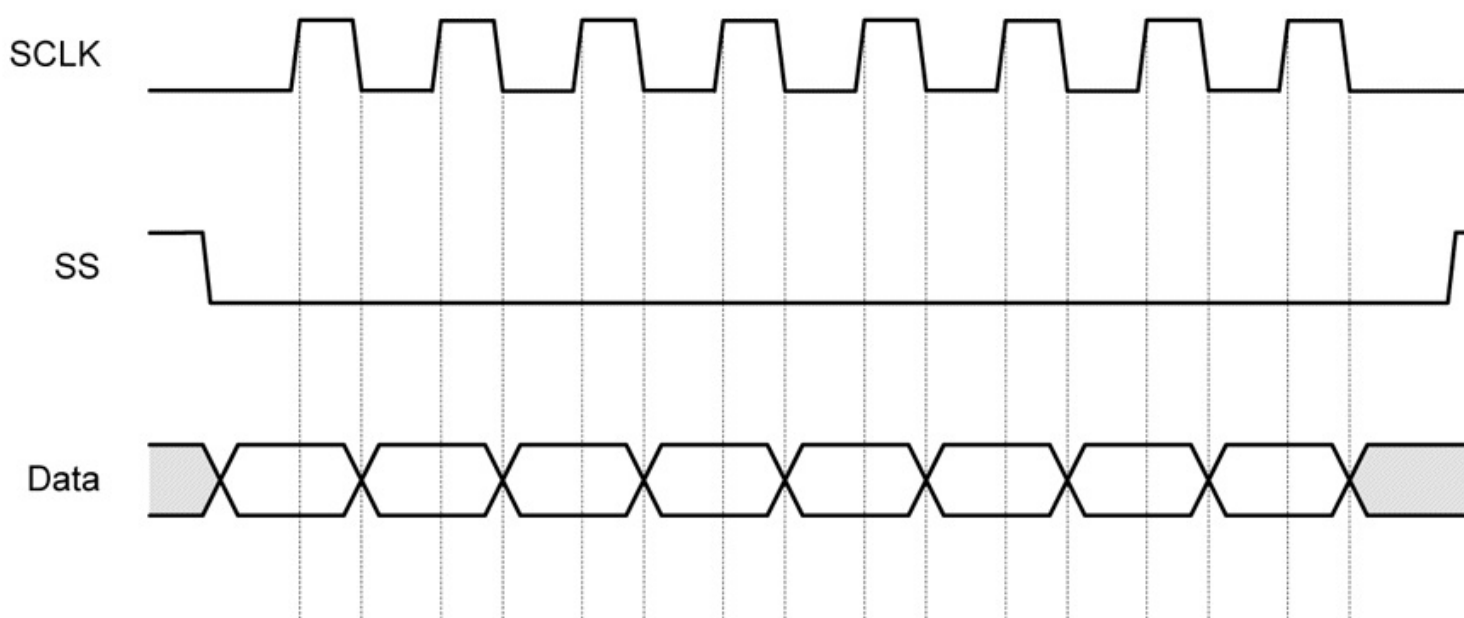

Figure 14-5. SPI data transfer timing diagram
Each slave device waits for a control input (the SS line) to go low. When this occurs, it will start to “clock in” data from the master device synchronously with the SCLK signals. Figure 14-5 shows a simplified timing diagram for SPI data transfers.
In **Figure 14-5**, the data is changed (or toggled) on the falling edge of a clock pulse and read on the rising edge. Each of the odd-looking boxes on the data line represents a single bit of data, which can be either low (0) or high (1). When the SS line is high (inactive), a slave will cause its MISO pin to go into what is called a *high-Z* (or *high impedance*) state. This effectively removes it from the circuit until the SS line to that particular slave device is once again pulled low.
Figure 14-5 shows only one possible configuration for an SPI interface. There are four different modes that define the clock polarity and how the clock pulses will be toggled and sensed. Refer to the “**SPI Block Guide**” for details about the clock polarity options. Note that the master and its slave devices must use the same clock and data modes in order to communicate, and most slave devices are hardwired when they are fabricated for one of the four possible modes. If a master is connected to multiple slaves with different clock modes, it will need to reconfigure itself for each slave as necessary.